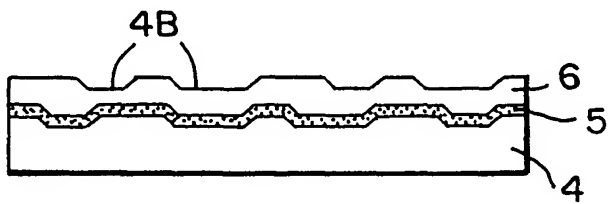

FIG. 4(E)
FIG. 4(E) is a cross-sectional view of a device. It shows a substrate 4 with a layer 5. Layer 5 contains a series of rectangular features 6. Above layer 5 is a layer 7, and above layer 7 is a layer 8. The features 6 are filled with a material indicated by diagonal hatching.